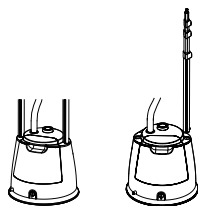

FIG 1
4. Place the rod into the rod receptacle on the unit. Extend the rods to release clips(end of outer rod), align rod slot with protruding of receptacle, insert rod until click sound. Repeat for another rod. (FIG 1)